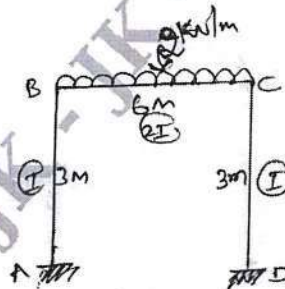

Fig.Q.10
**Q.10** Analyze the portal frame as shown in Fig.Q.10 by moment distribution method and draw BMD. **20 L4 CO5**